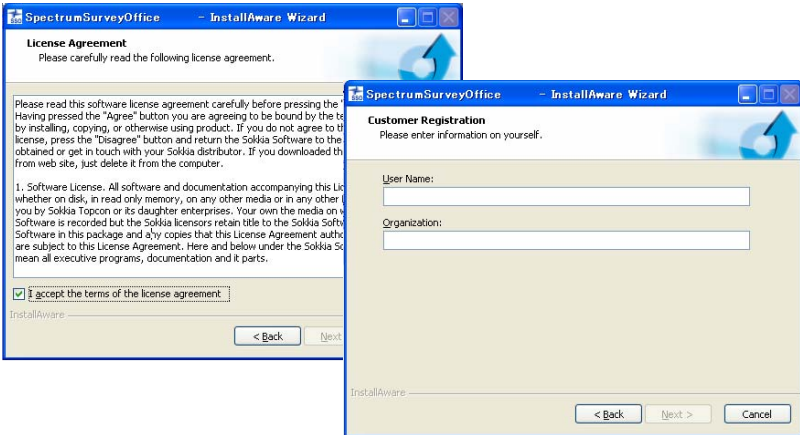

Figure 1-1. Begin the Installation
4. Check the '*I accept the terms of the license agreement*' box, to continue the installation (Figure 1-1). Type *User Name* and *Company Name* information, then click **Next** (Figure 1-1).